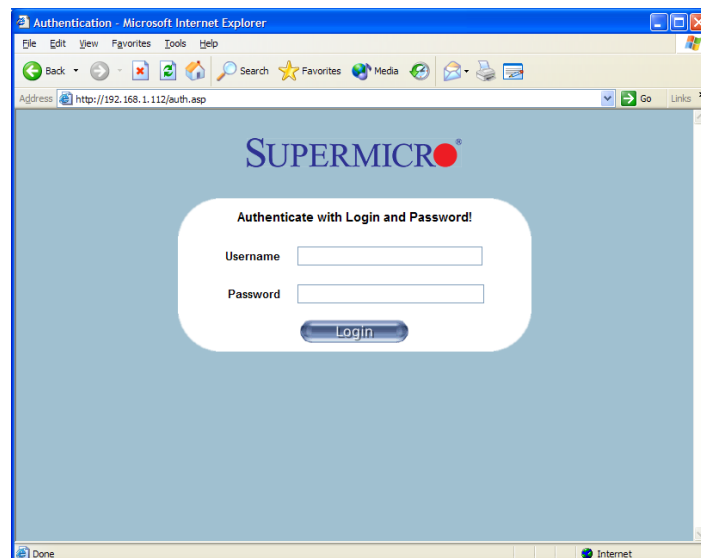

Figure 2-30 CMM Web Management Interface
- **Web Management:** Opens a browser that is linked to the CMM web interface (Figure 2-30).